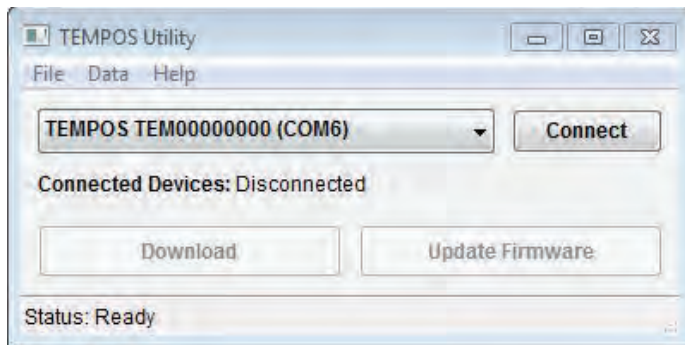

Figure 20 TEMPOS Utility downloader
Once the downloader is installed, TEMPOS Utility will open a new window (Figure 20). The software can now be used to download data from TEMPOS.
2. Once connected, the controller serial number will appear in the TEMPOS Utility dropdown (Figure 20).
5. Press Download to download the data stored on the controller (Figure 20).
5. Click the Update Firmware button in the TEMPOS Utility screen (Figure 20) .